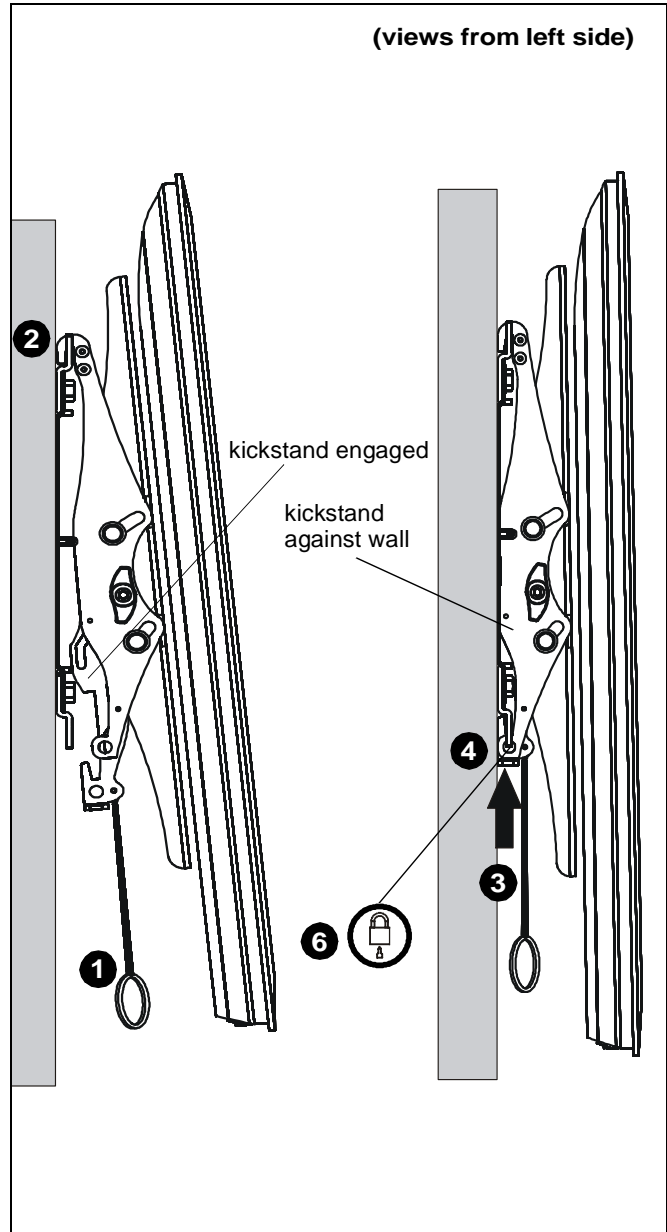

Figure 10
1. Make sure interface brackets are in the kickstand position by pulling down on handles as far as possible. (See Figure 10)
2. Hang display with brackets (B and C) on upper rail of wall plate (A). Kickstand should be engaged with lower portion of wall plate. (See Figure 10)
3. Unlock kickstand by pushing up on interface brackets until kickstand rests against the wall. (See Figure 10)
4. Push up on the interface brackets further in order to lock display into position against wall. (See Figure 10)
6. (Optional) Route padlock or cable lock (not included) through bottom holes on interface bracket to provide additional security. (See Figure 10)